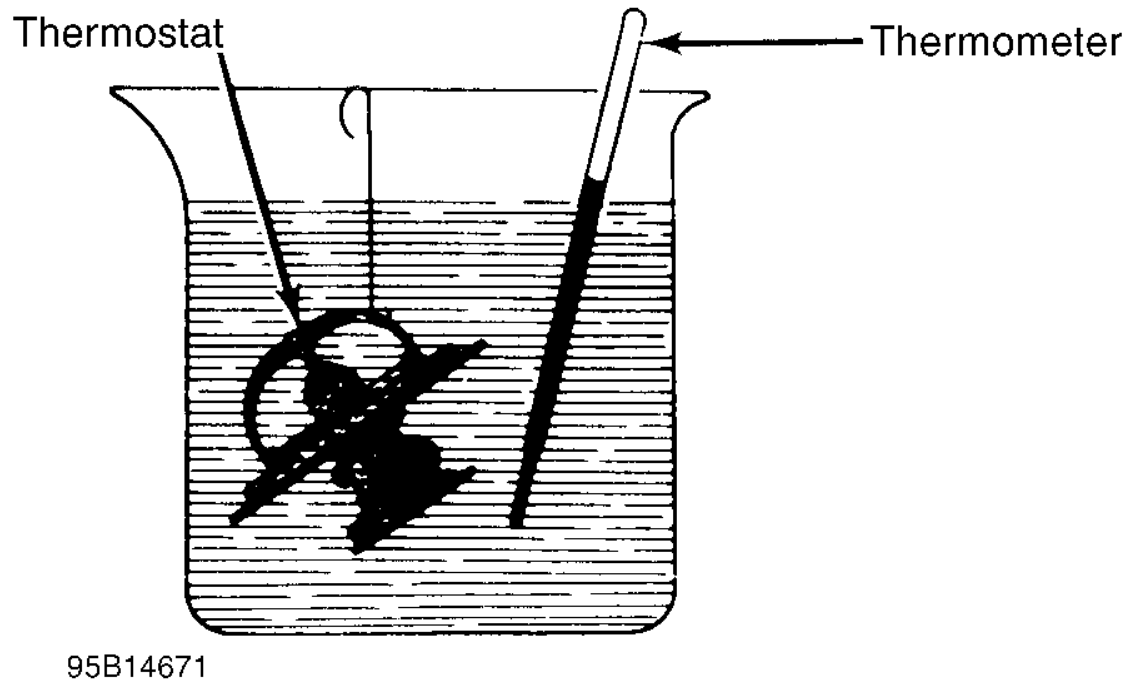

Fig. 1: Testing Thermostat in Coolant/Water Solution
1. Remove and inspect thermostat for corrosion and proper seating of valve. If okay, suspend thermostat and thermometer in a 50/50 mixture of coolant and water. See Fig.1. DO NOT allow thermostat or thermometer to touch bottom or container. Heat water until thermostat begins to open.